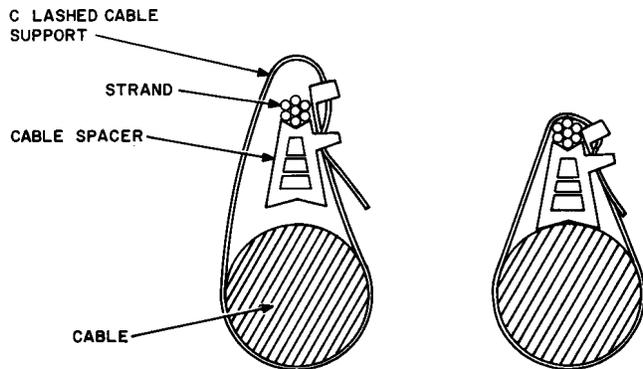

Fig. 8—Installation of C Lashed Cable Support and Cable Spacer
4.03 Place C lashed cable support and cable spacers on a single cable or sleeve as follows (Fig. 8):